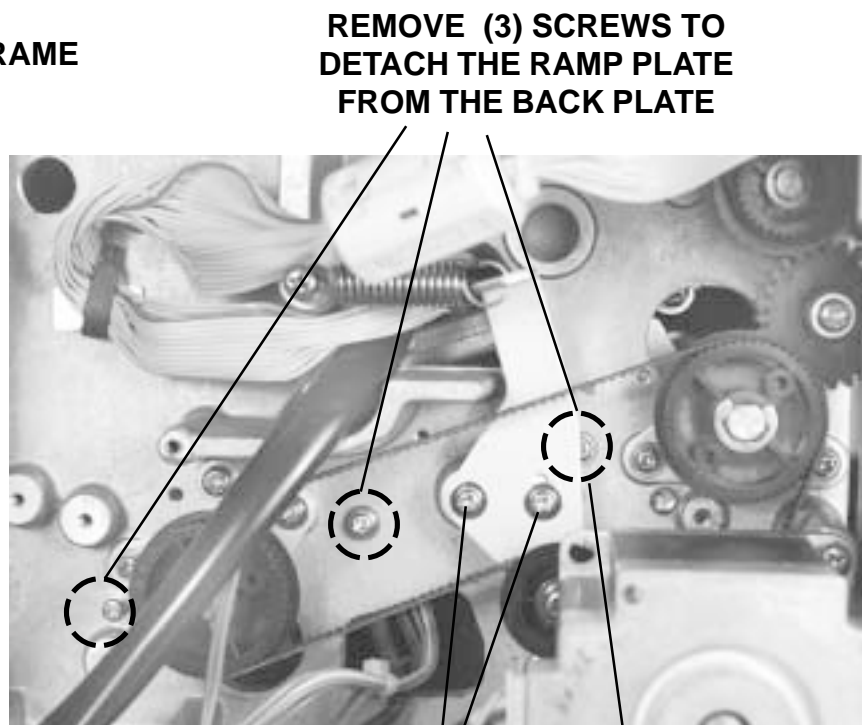

Fig. 6-59
5.	Loosen screws from idler gear plate for access to screw. Remove (3) screws to detach the opposite end of the ramp plate from back plate (electronics section). Fig. 6-59